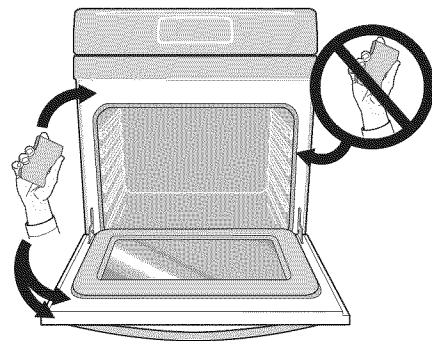

Figure 38: Clean around the oven door gasket
9. Wipe oven cavity and bottom. Do not clean oven door gasket (See Figure 38).